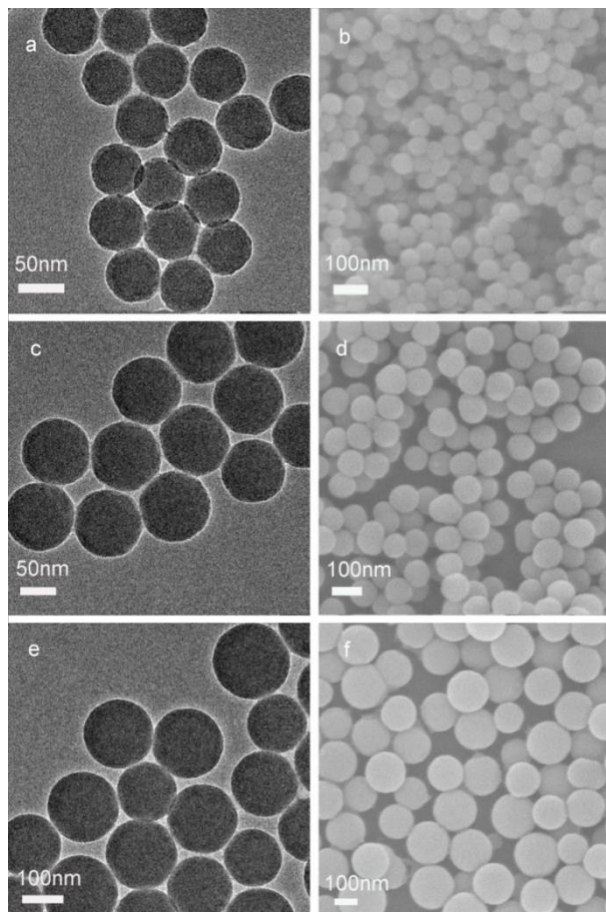

Figure S2. TEM images of synthesized dye doped NPs-2(a), NPs-4(c), NPs-6(e) and SEM images of NPs-2(b), NPs-4(d), NPs-6(f).
3. Figure S2. TEM images and SEM images of nanoparticles. Figure S2a and S2b